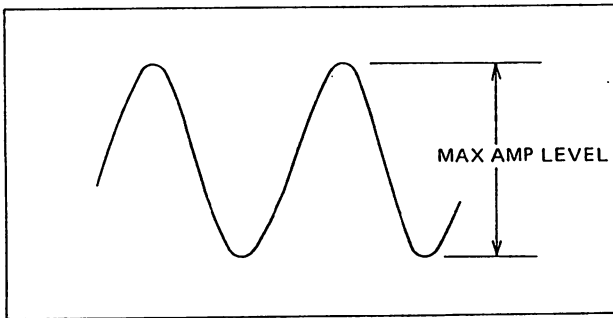

Fig. 1
- 3) Connect oscilloscope to CN6A pin 1 and observe waveform as in figure 1.